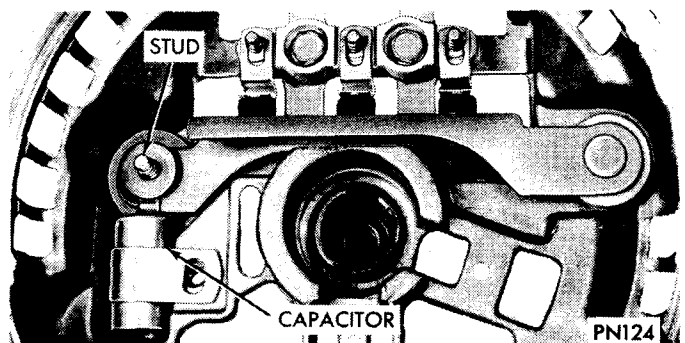

Fig. 35—Installing Capacitor
(8) Install capacitor terminal over heat sink stud, (Fig. 35). Install capacitor insulator (be sure it seats properly in capacitor terminal and heat sink hole).